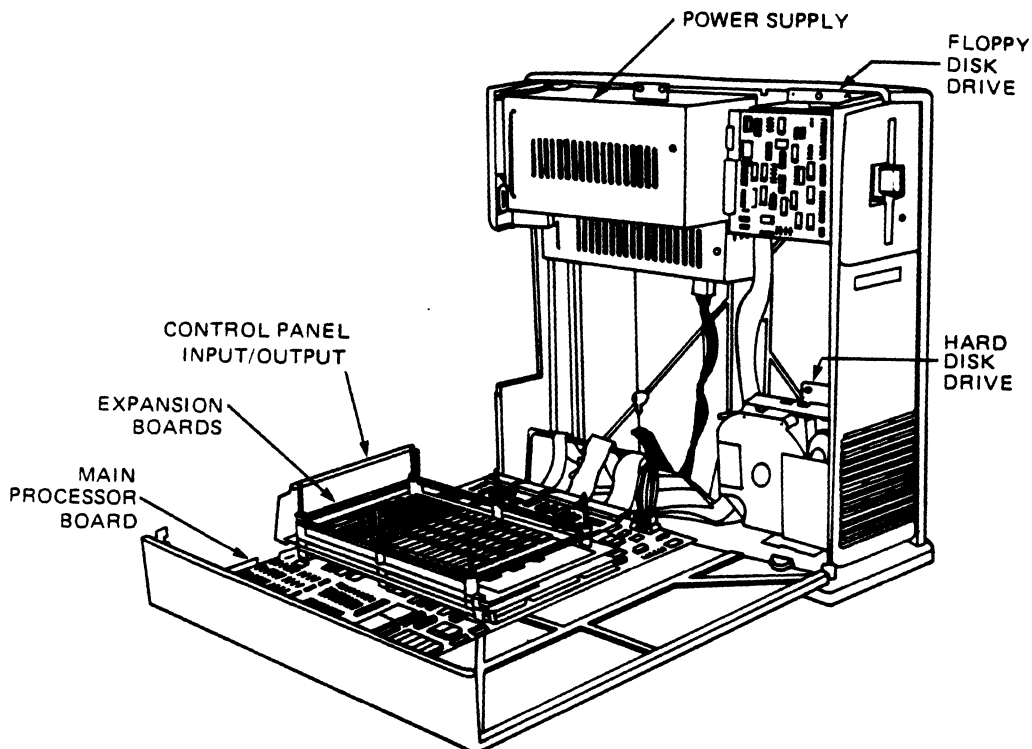

Figure 2-2. Inside the Computer Cabinet
5. Swing down the cabinet until it rests on the floor, as illustrated in Figure 2-2. The cabinet contains
- o Expansion boards stack on top of the Main Processor board and are supported by a threaded-stud metal structure that contains six studs. Nuts screwed down onto the studs secure the boards. (See Figure 2-2.)